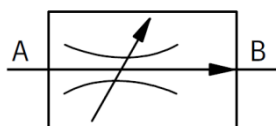

FIG 5.
E. The symbol for a 2-way flow control valve is shown in Fig 5.